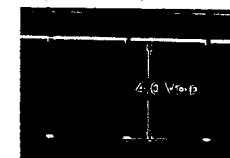

Fig. 2-1
- (1) Connect an oscilloscope to TP-1 on SG BOARD BASE (75  $\Omega$  termination).
- (2) Adjust R44 (SYNC LEVEL) so that a voltage of 4 Vp-p  $\pm$  0.2 V is obtained as shown in Fig. 2-1.